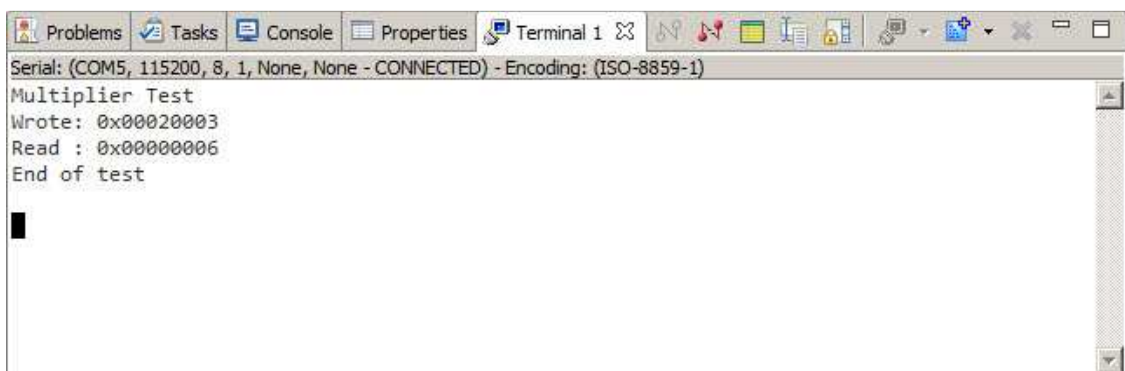

Figure 52: Results of Run Configuration
9. You will see the following results on the terminal (**Figure 52**)